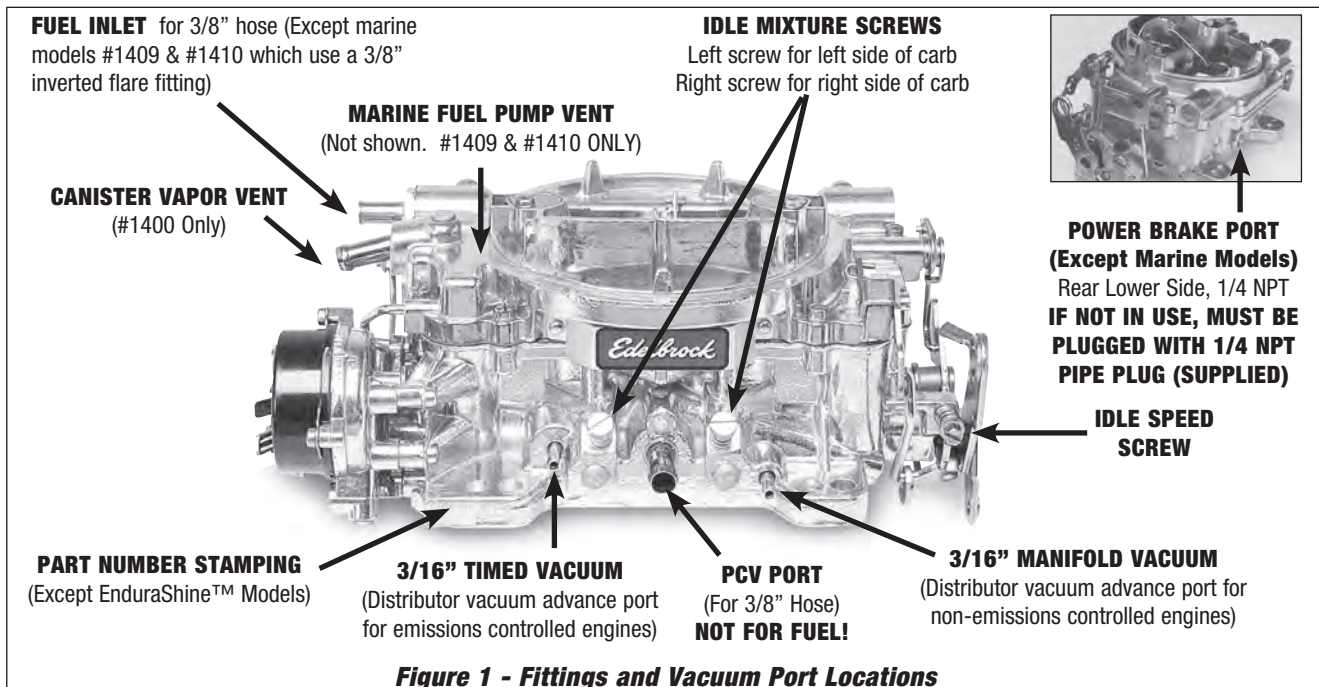

Figure 1 - Fittings and Vacuum Port Locations
- Connect all vacuum hoses to their proper location on the carburetor (See Fig. 1). Replace hoses that appear brittle or cracked to prevent vacuum leaks.